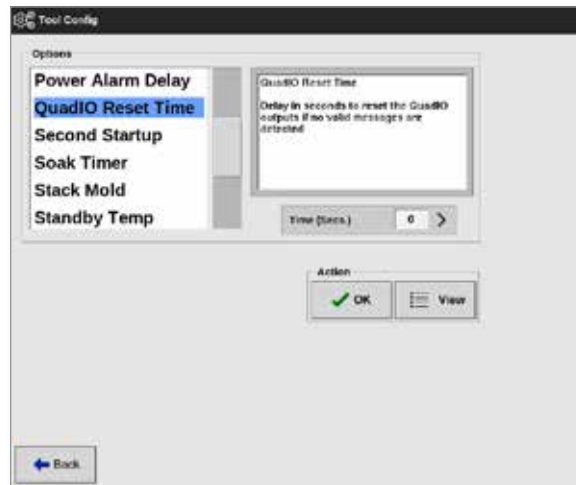

Figure 13-2 Choose Quad I/O Reset Timer
4. Choose Quad I/O Reset Timer from the options list. See Figure 13-2.